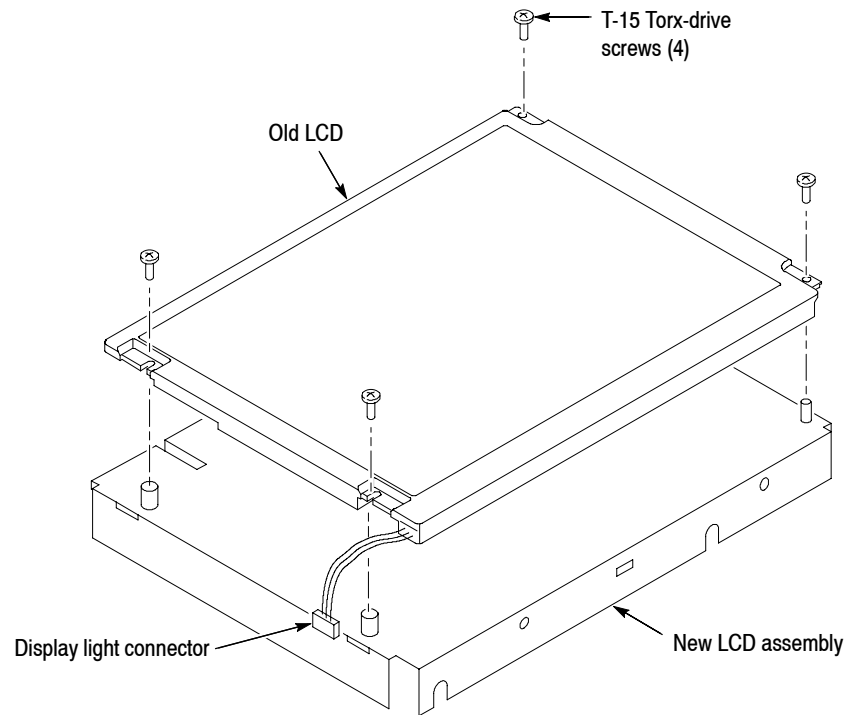

Figure 6: Install the old display to the new rear bracket assembly
- b. Remove the four T-15 Torx-drive screws that secure the old LCD to the old LCD assembly. See Figure 6 for T-15 screw locations.
6. Install the new LCD assembly and touch screen panel by sliding them together until tabs snap into the notches. See Figure 6.